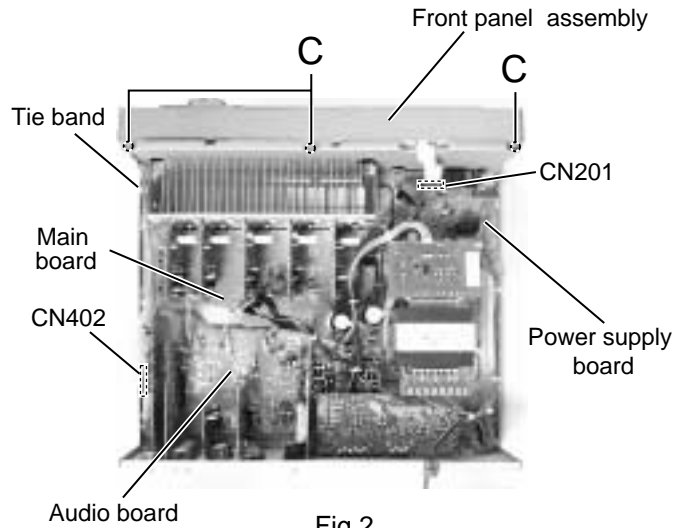

Fig.2
■ Removing the front panel assembly (See Fig.2, 3)